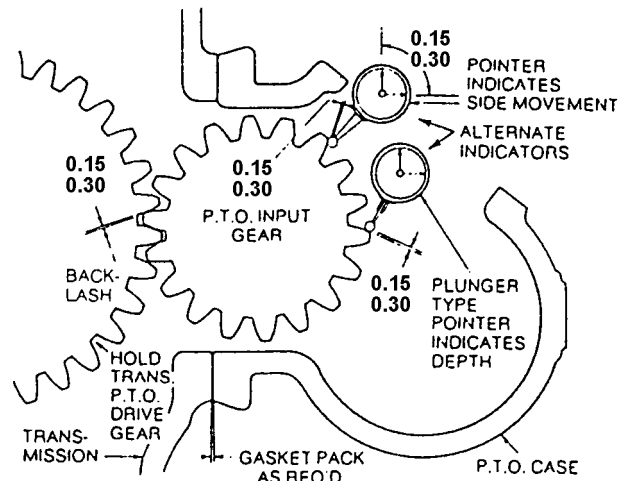

FIG.2
- See figure 2 for proper location of dial indicator contact point.